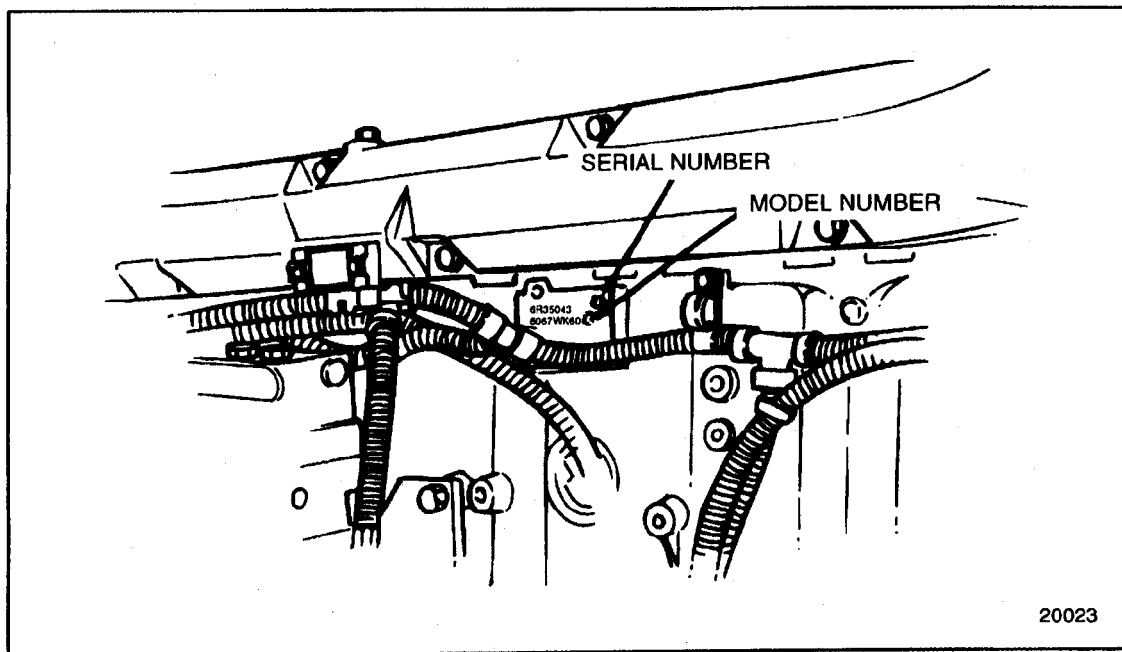

Figure 1-17 Location of Engine Serial and Model Numbers
2. If a new service replacement block is used, stamp the engine serial number and model number on the pad provided on the left side of the block, just below the deck. See Figure 1-17.